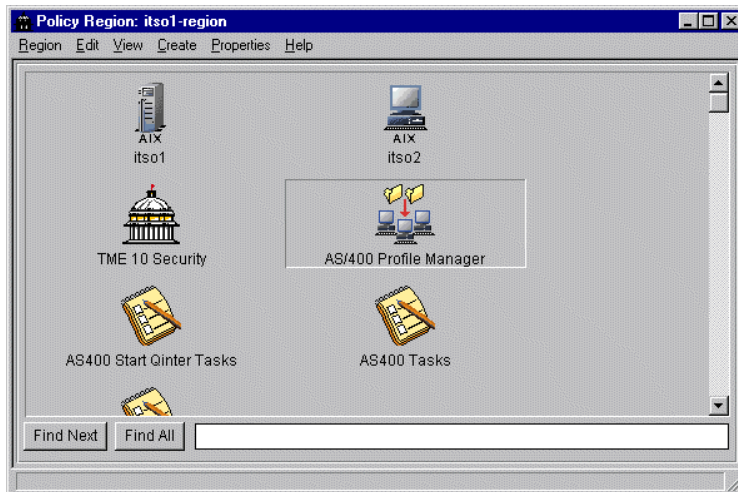

Figure 112. Selecting the profile manager on Tivoli Desktop
1. Start the Tivoli Desktop and select the profile manager on the Tivoli Desktop by double clicking on the icon shown in Figure 112.